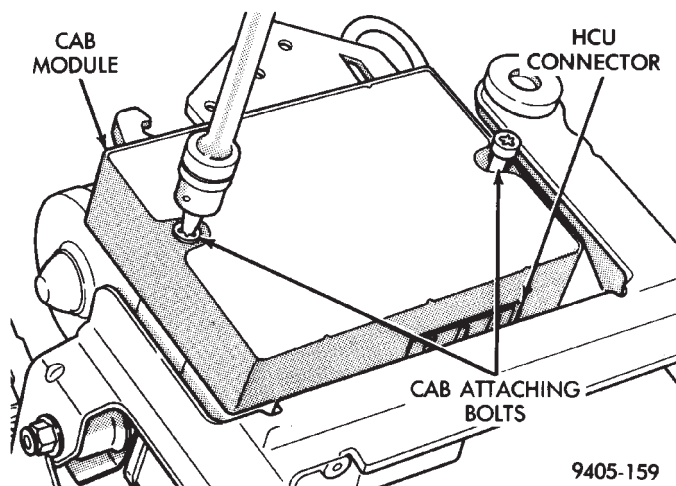

Fig. 28 CAB Removal And Installation From HCU
- (2) Remove the HCU assembly from the vehicle. Refer to Hydraulic Control Unit Removal, in this section of the service manual for the required removal procedure.
- (3) Remove the 2 CAB module to HCU assembly mounting bolts (Fig. 28).
- (4) Remove the CAB from the HCU by pulling it straight out of the CAB connector on the HCU **DO NOT TWIST**.
- (1) Install the CAB module by pushing it straight into the connector on the HCU until fully seated.
- (2) Install the 2 CAB module to HCU assembly attaching bolts (Fig. 28). Tighten the 2 bolts mounting the CAB to the HCU to a torque of 12 N·m (106 in. lbs.).
- (3) Install HCU assembly back in the vehicle. Refer to Hydraulic Control Unit Installation, in this section of the service manual for the required installation procedure.
- (4) Bleed the air from brake hydraulic system. Refer to Bleeding the Teves Mark IV-G ABS and ABS